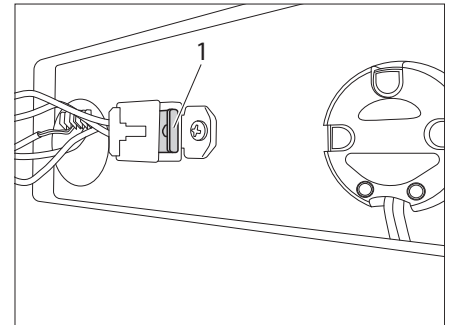

Fig. 82 Exchanging a fuse
- Exchange the fuse (Fig. 82,1).